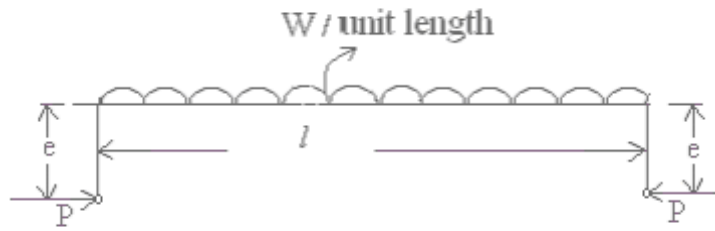

Figure 7
5. A pin jointed strut carries a UDL. of intensity 'w' per unit length and an eccentric axial load P at an eccentricity of 'e' as shown in figure 7. Find the deflection at mid span of the strut. [16]